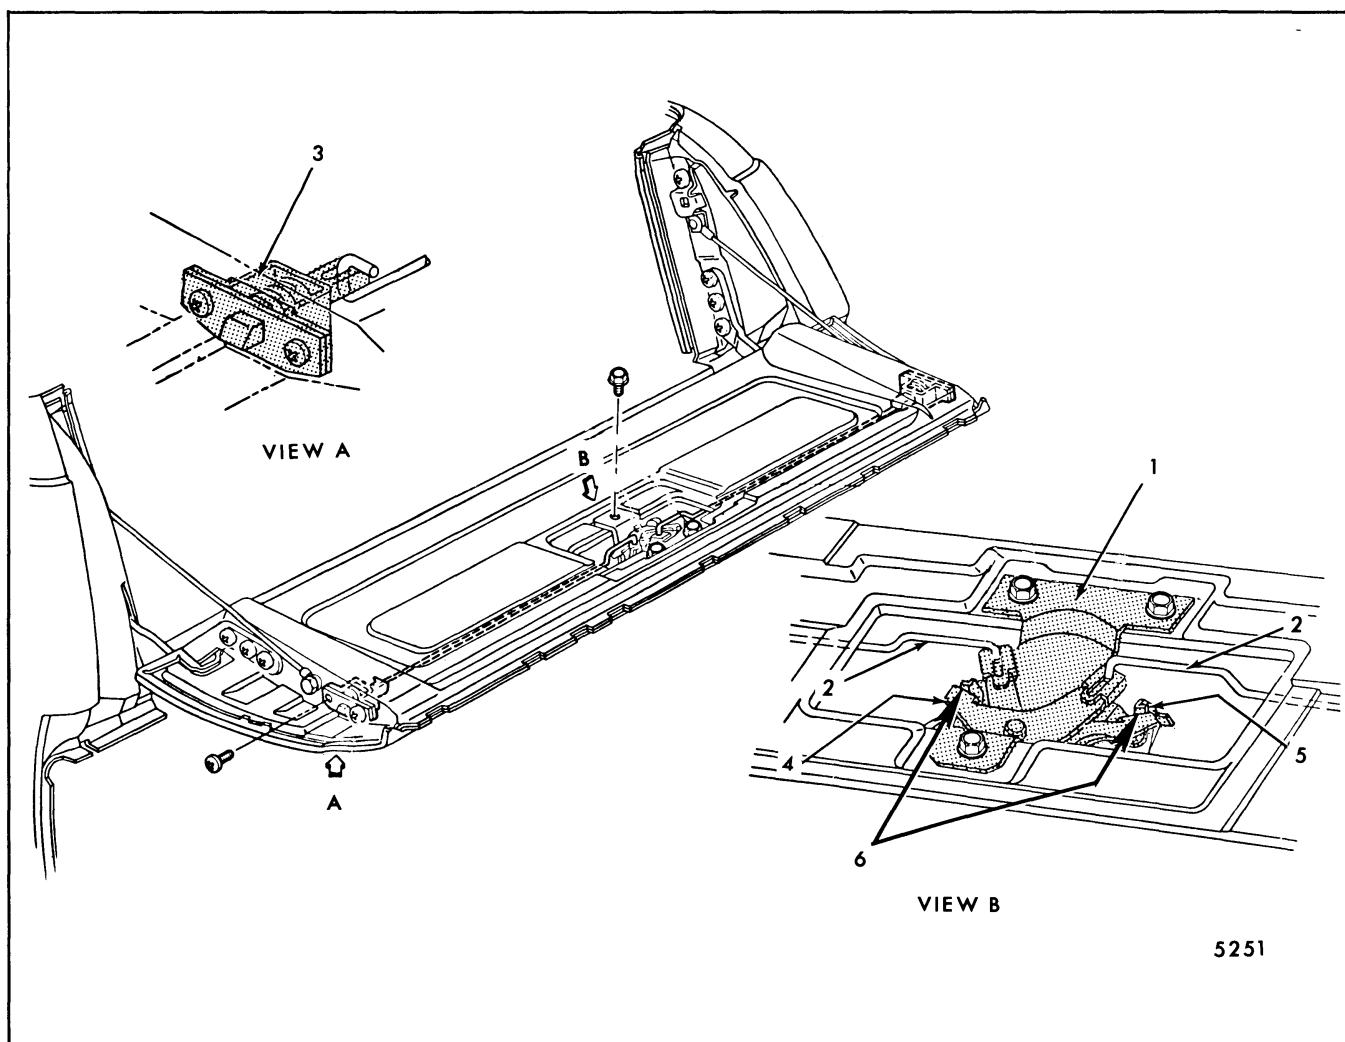

Fig. 7-80-Tail Gate Hardware Installed
2. Disconnect remote control-to-latch rods at remote assembly by sliding rod attaching clips out of engagement (Fig. 7-80).
To assure simultaneous action of right and left latches, loosen remote control assembly bolts, position assembly so that remote arms contact latch rod rotors and tighten remote control bolts (Fig. 7-80).
2. Disengage remote control-to-latch rods at remote control assembly (Fig. 7-80).
3. Remove bolts securing latch assembly to tail gate and withdraw latch with control rod attached from gate. Remove control rod from latch if required, as a bench operation (Fig. 7-80).